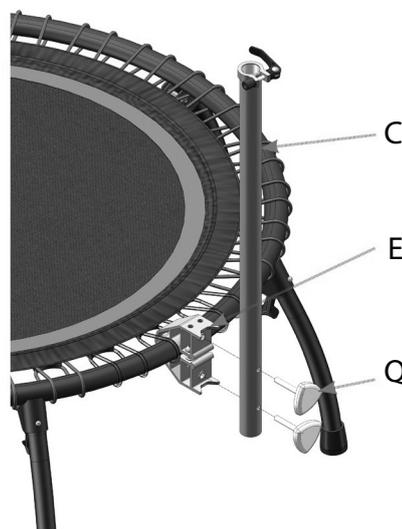

fig. 4
Use the knobs (Q) to mount the support tube (C) to the clamp (E) (fig. 4).